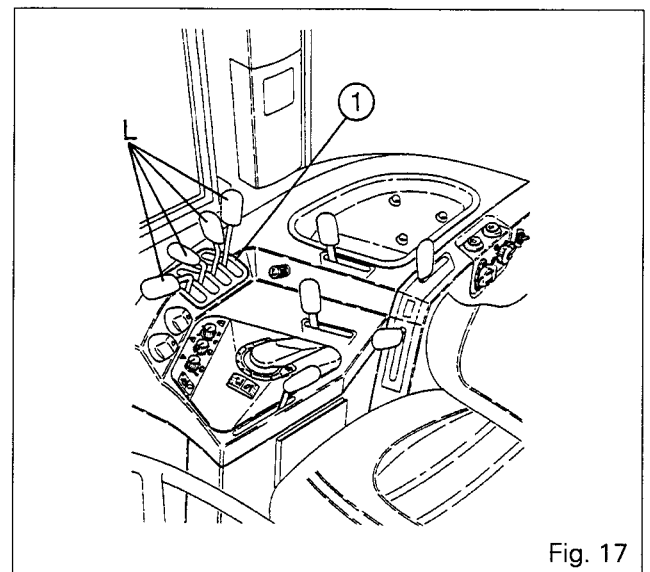

Fig. 17
4. Screw the clevis (1) to the end of the cable thread (2). Tighten the nut (3) and attach the pin (4).
5. Partially screw the cover (5) and place the screws (6) without tightening them.
6. Adjust the cover so that the lever is correctly positioned in respect to the plates (1) Fig. 17.
7. Screw in the screws (6) and tighten the nut (7) to a torque of 20 Nm.